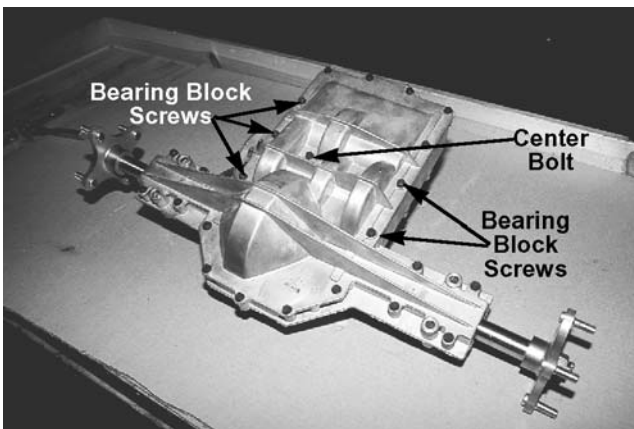

Figure 5-96.
59. Tighten the center bolt first, followed by the six bearing block screws, and then the remaining perimeter screws. Torque to between 90 and 120 inch pounds. See Figure 5-96.